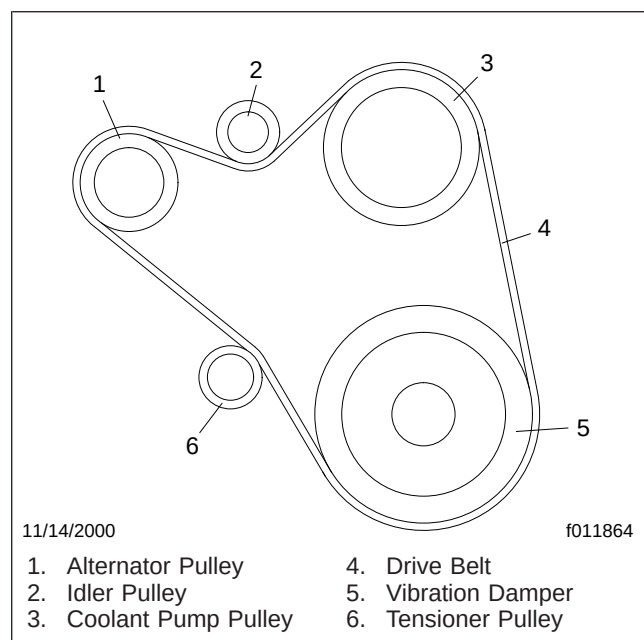

Fig. 3, Main Drive Belt Routing
5. Fit the new belt onto the pulleys. Be careful not to kink, stretch, or otherwise damage the belt. For correct routing, see Fig. 3. Do not fit the belt onto the tensioner pulley yet.